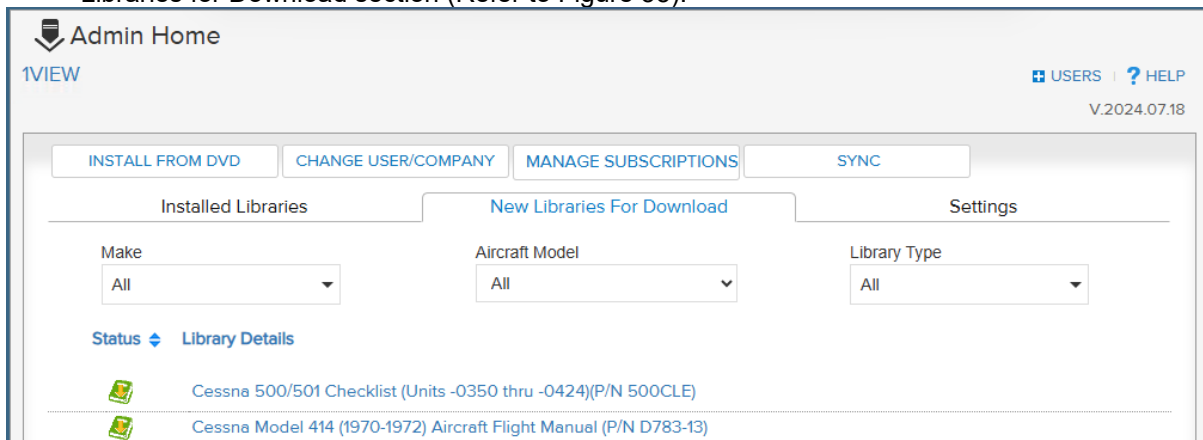

Figure 35 - New Libraries for Download
2. Select the *New Libraries for Download* tab at the top of the Admin Home. a library from the New Libraries for Download section (Refer to Figure 35).